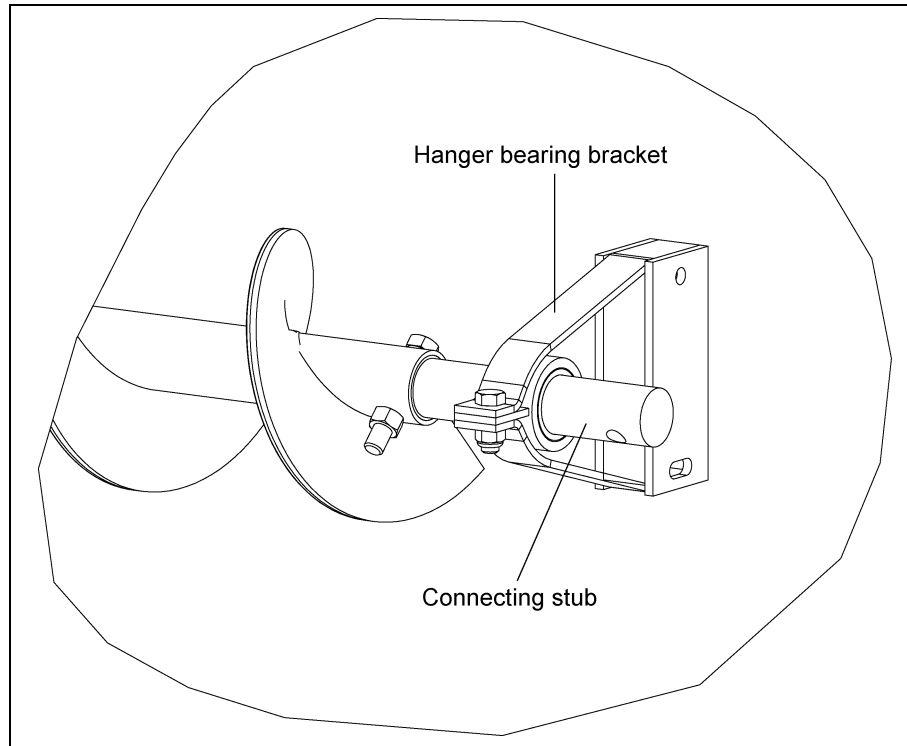

Figure 4AD
7. Install the next section of flighting onto the connecting stub. Secure the flighting with bolts (See Note for Bolt Size on Page 31) and stover nuts. (See Figure 4AE.)